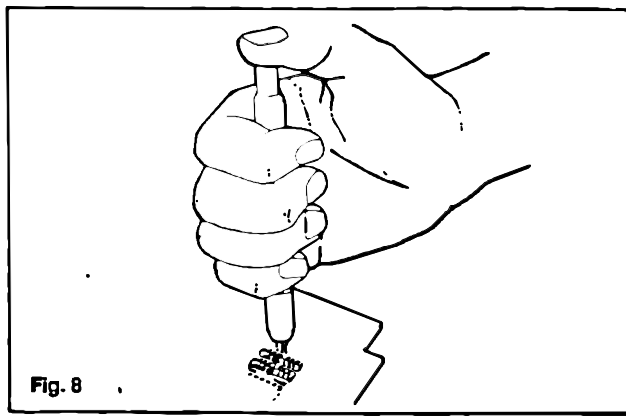

Fig. 8
5. Firmly depress cut-off button, severing conductor between blade and PC board. Take care not to damage other conductors or PC board traces. (Figure 8)